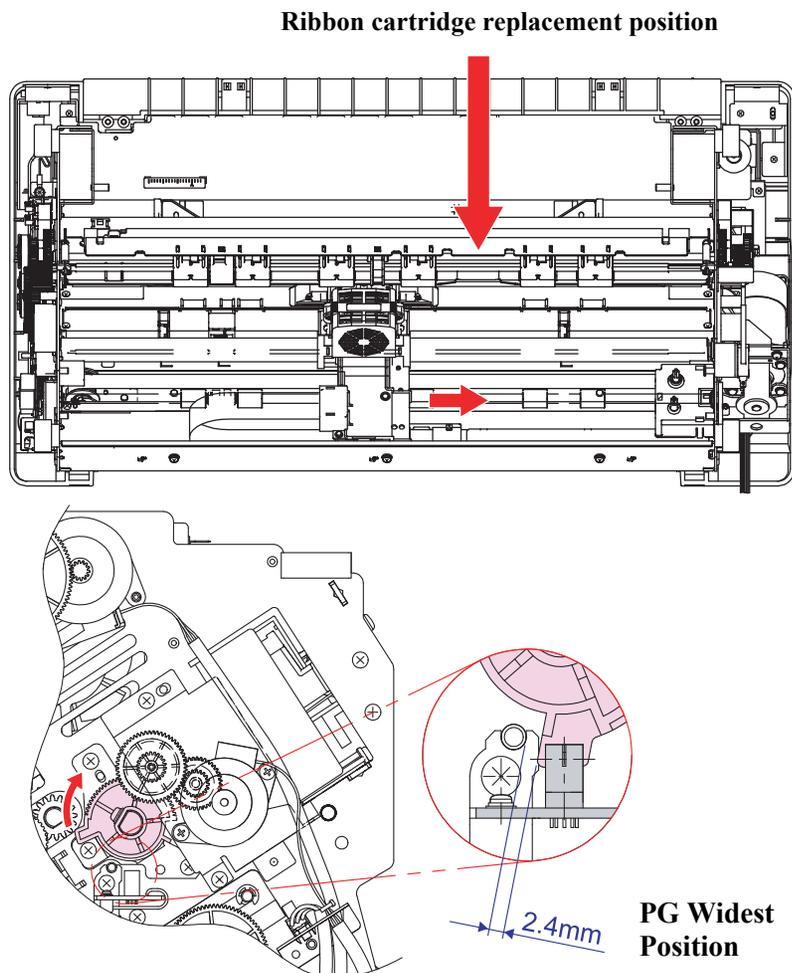

Figure 5-18. Mechanical Position Check
- Open the top cover and remove the Ribbon Cartridge, then verify that the CARRIER UNIT is at the Ribbon cartridge replacement position. (See Figure 5-18).